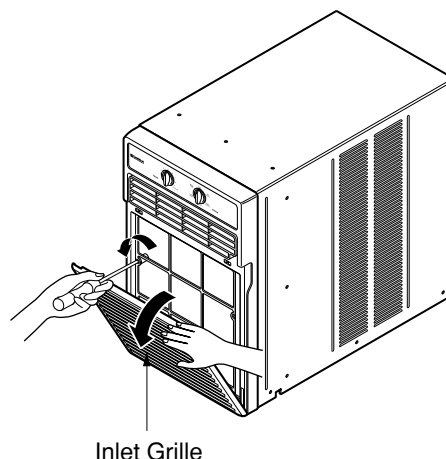

Figure 1
2. Remove the screws which fasten the front grille.(See Figure 1)